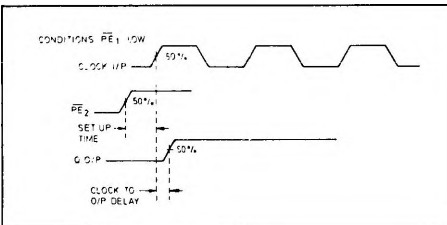

Fig. 3 Set-up timing diagram
- Set-up time is defined as the minimum time that can elapse between a L \rightarrow H transition of a control input and the next L \rightarrow H clock pulse to ensure that the $\bar{\phi}6$ mode is forced by that clock pulse (see Fig. 3).